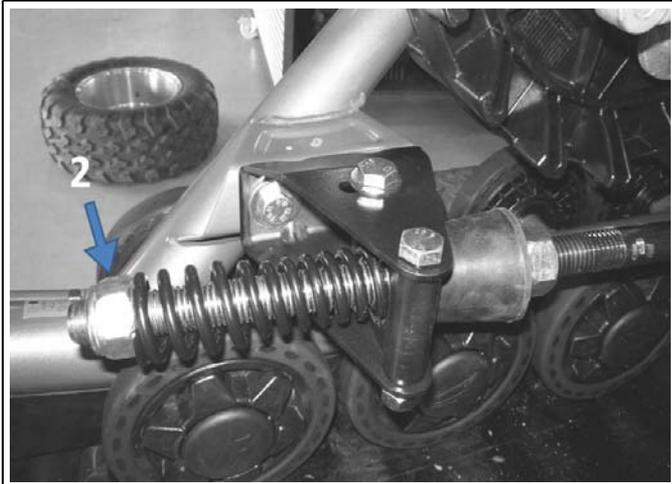
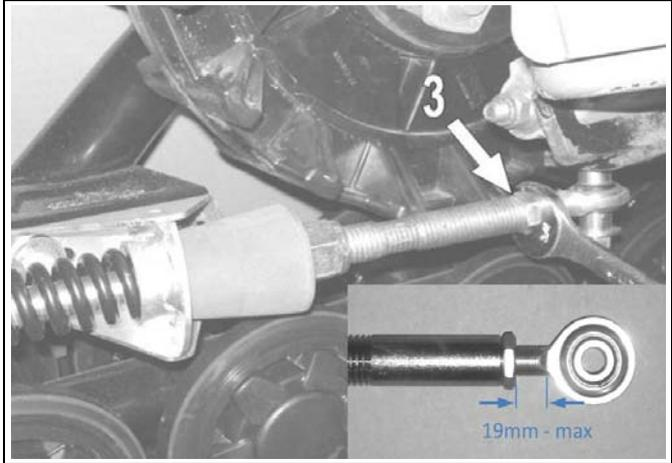

Figure 14
Figure 15
- Turn nut (2) until it comes in contact with the spring. Then compress the spring by turning the nut two complete turns (See Figure 14).
NOTE: In some rare cases where the adjustment of the nut (item 2 on Figure 14) compressing the spring is near the end of the threaded rod, extend the rod by unlocking the jam nut (item 3 on Figure 15) and unscrew the rod to obtain 19 mm max. of visible threads. Re-tighten the jam nut.